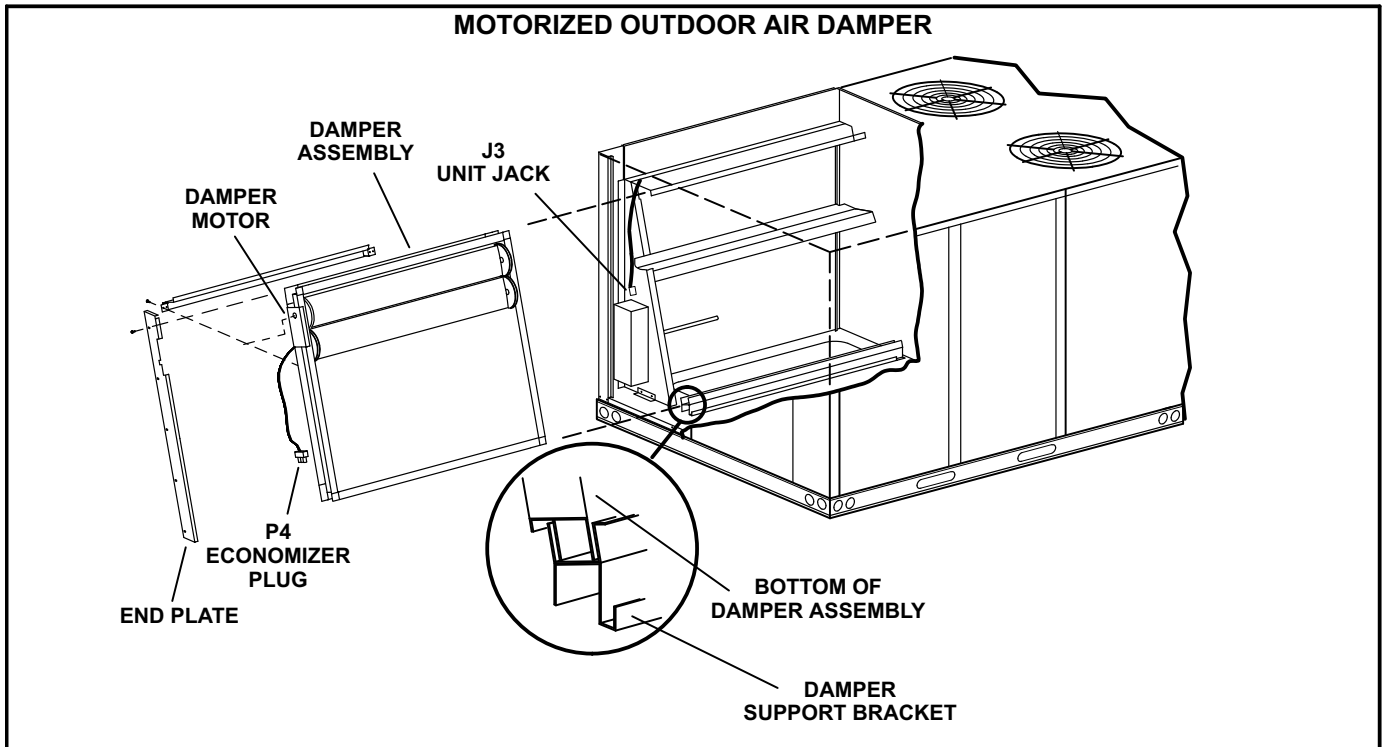
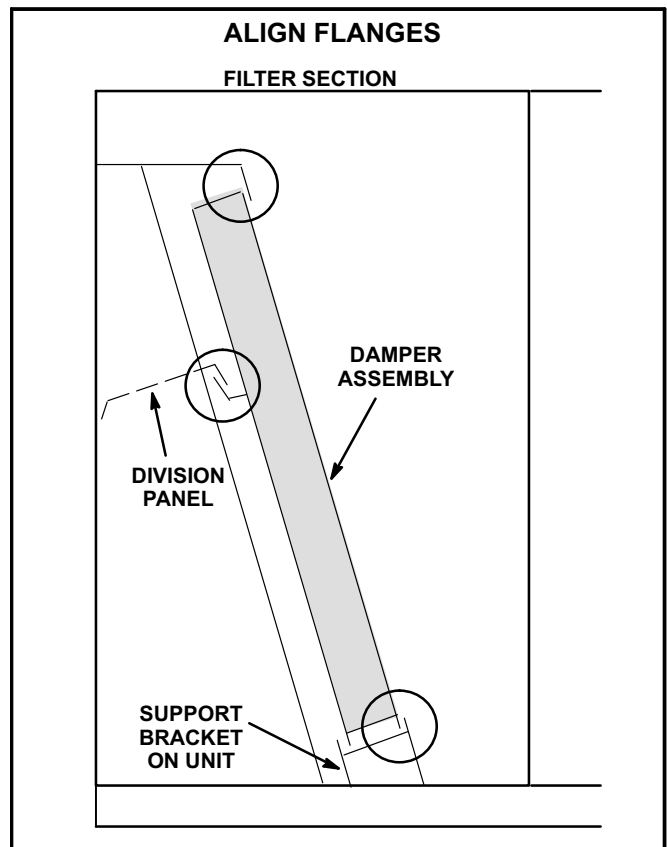

FIGURE 1
FIGURE 3
Damper opens to a set position, as shown in the "Determine Fresh Air Percentage" section, when the blower is operating. To operate the dampers only during the occupied time period, an optional thermostat or energy management system must be installed when a unit is not equipped with a Unit Controller. Both blower operation AND an occupied signal are required for dampers to energize. See figure 1.
- 2- Align bottom of damper assembly with support bracket and slide assembly into unit. See figure 1. Make sure flanges align as shown in figure 3.
- Align bottom of damper assembly with support bracket and slide assembly into unit. See figure 1.